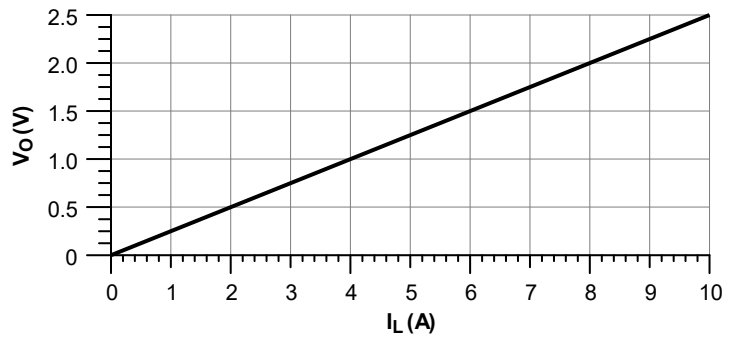

Figure 5. Circuit Parameters and Transfer Characteristic of the Circuits in Figure 3 and Figure 4
**Note:** Besides the resistor tolerances, the finite current gain of the bipolar transistor adds a small gain error. Again, the ultra-low input offset of the ISL2813x family of auto-zero amplifiers allows for the use of small sense resistor values and therefore significantly lower power loss. With the circuit parameters listed in Figure 5, the circuit gain for both circuits is  $V_O/I_L = 250\text{mV/A}$ .